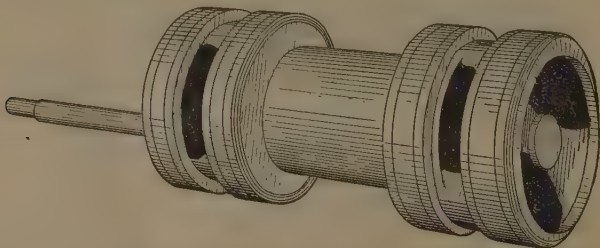
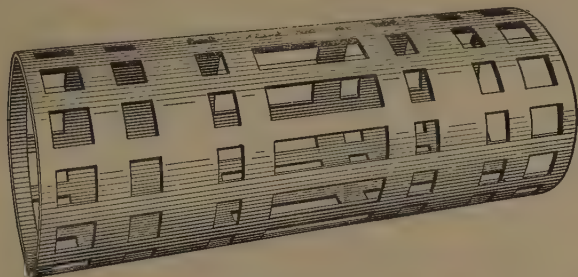

Fig. 150. Hollow Piston Valve, Vaucain Compound Locomotive.
Fig. 151. Bushing of Piston-valve Seat, Vauclain Compound Locomotive.
A. It is a hollow piston having cast-iron rings sprung into place like ordinary piston rings. It is practically, in working, two D valves the two ends of which control admission and exhaust to and from the high-pressure cylinder, the inner rings doing same for the low. Fig. 150 shows the valve; Fig. 151 the ported seat or bushing in which it plays.